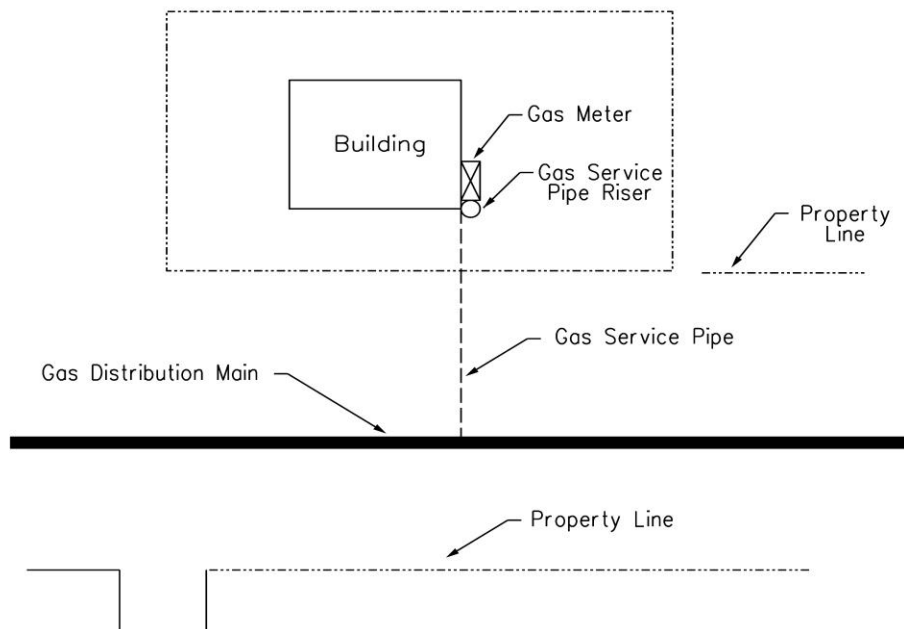

Figure 6. Gas Service
- (a) In a protected location adjacent to the building served (see Figure 6, below). An exception to this requirement is for schools, where it is required to protect the meter set by installing it in a location that is separated from buildings and playground areas. It will be necessary to install a protective enclosure or wire cage with a cover around the meter set in these cases. (See Figure 7 and Figure 8.)